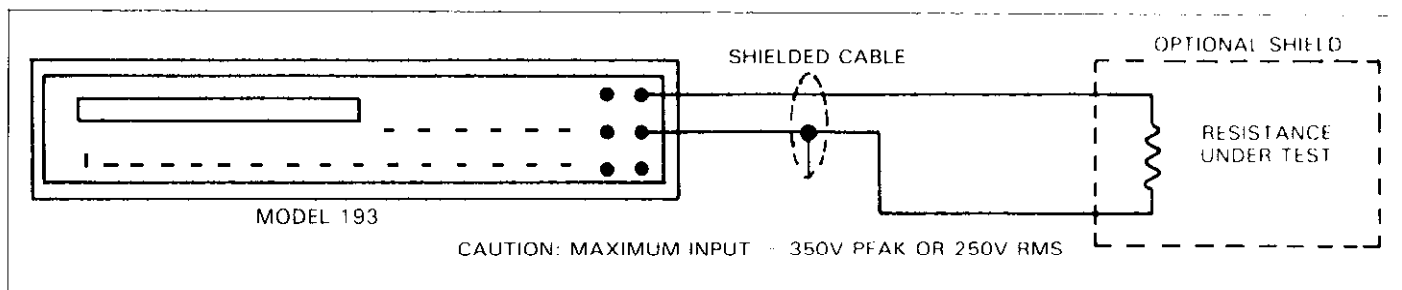
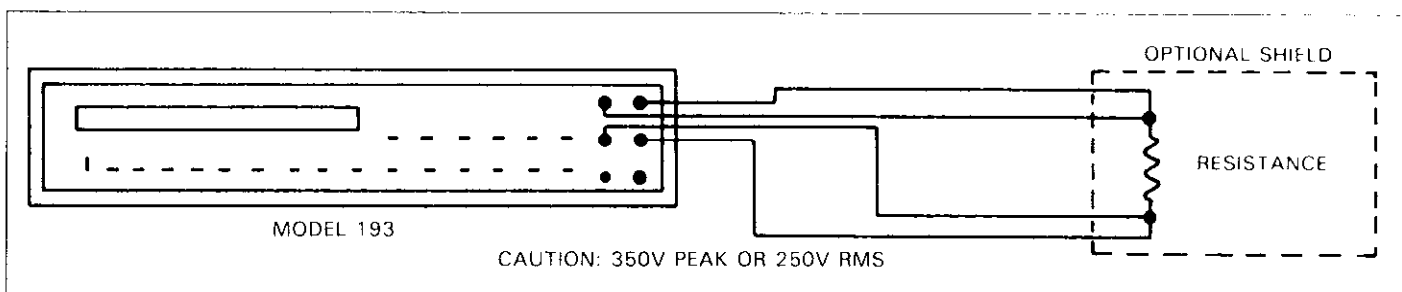

Figure 2-5. Two-Terminal Resistance Measurements
Figure 2-6. Four-Terminal Resistance Measurements
4. For 2-terminal measurements connect the resistance to the instrument as shown in Figure 2-5. For 4-terminal measurements connect the resistance to the instrument as shown in Figure 2-6.